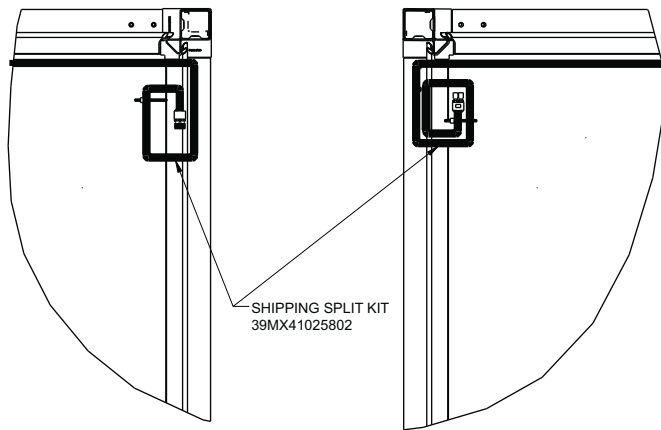

Fig. 26 — Power Harness in Shipped Position at Horizontal Split
5. Find the Power Plug harness and/or Control Plug harness in its position secured for shipment. (Fig. 26).